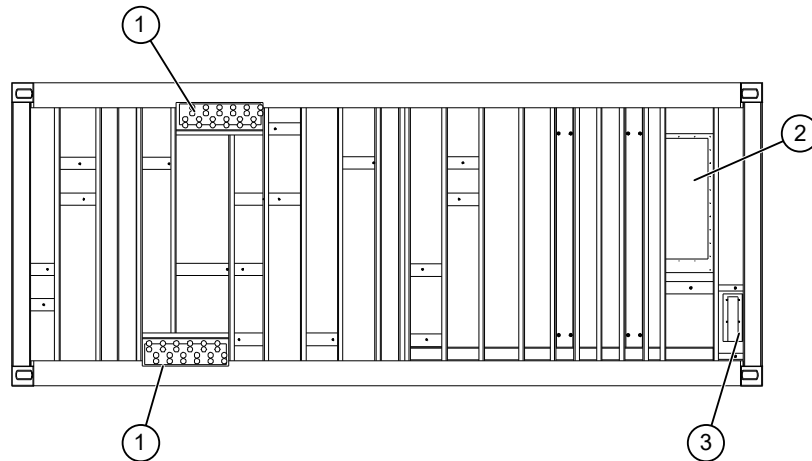

Fig. 3-1 Location of incoming and outgoing line holes
2. Cable trenches should be preset according to the overall design of the power station and the incoming and outgoing mode of cables at the bottom of the PCS skid when foundation is built. The AC side of the PCS skid does not support bottom wiring, but only supports side outlet copper bars. The DC side is equipped with waterproof connectors for wiring. The specific wiring position of the PCS skid is shown in Fig. 3-1, and Fig. 3-1 is the top view of the PCS skid.